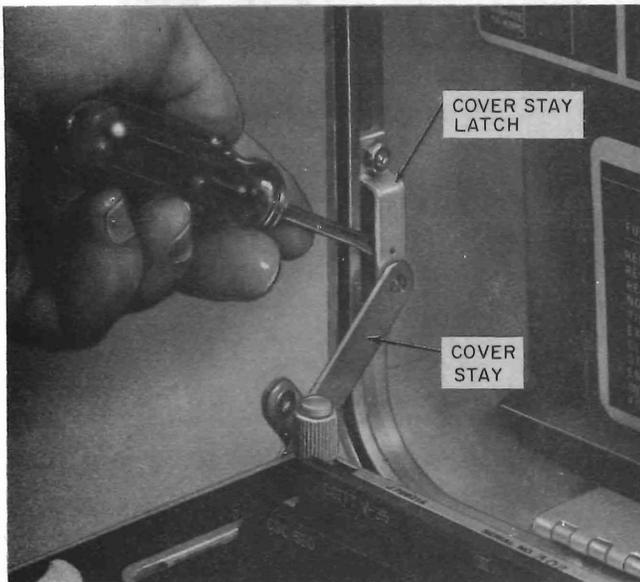

Fig. 4—921A DTS Cover Removal
- (1) Open cover and disengage cover stay by lifting cover stay latch with a screwdriver (Fig. 4). Move cover stay to right and rotate toward front panel.